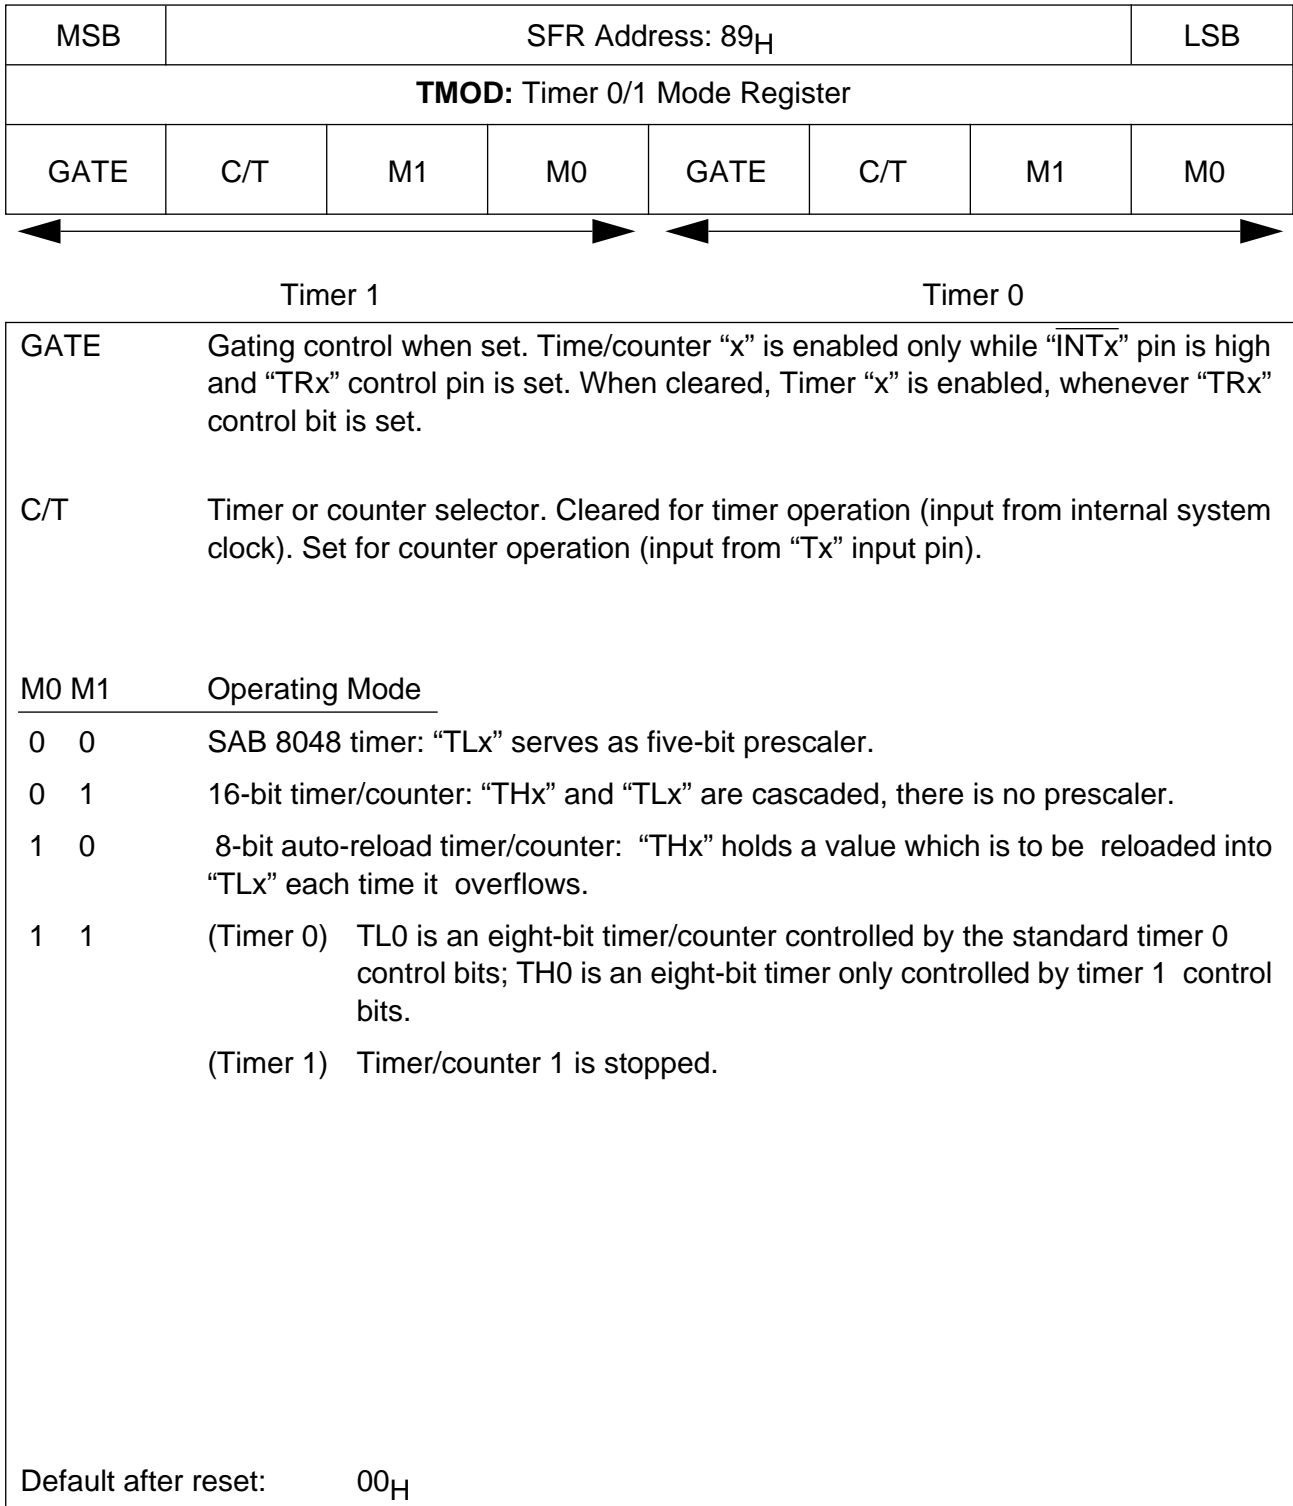

Figure 14
Timer/counter 0 can be configured in one of four operating modes, which are selected by bit-pairs (M 1, M0) in TMOD register (**figure 14**).
In this mode, the timer register is configured as a 13-bit register. As the count rolls over from all 1s to all 0s, it sets the timer interrupt flag TF0. The counted input is enabled to the Timer when TR0 = 1 and either GATE = 0 or INT0 = 1. (Setting GATE = 1 allows the Timer to be controlled by external input INT0, to facilitate pulse width measurements.) TR0 is a control bit in the special function register TCON (**figure 15**). GATE is contained in register TMOD (**figure 14**).
The use of the timer/counter is determined by two 8-bit registers, TMOD (timer mode) and TCON (timer control), as shown in **figure 14** and **figure 15**. The input to the counter circuitry is from an external reference (for use as a counter), or from the on-chip oscillator (for use as a timer), depending on whether TMOD's C/T bit is set or cleared, respectively. When used as a time base, the on-chip oscillator frequency is divided by twelve (12) before being used as the counter input. When TMOD's gate bit is set (1), the external reference input (T1, T0) or the oscillator input is gated to the counter conditional upon a second external input (INT0), (INT1) being high. When the gate bit is zero (0), the external reference, or oscillator input, is unconditionally enabled. In either case, the normal interrupt function of INT0 and INT1 is not affected by the counter's operation. If enabled, an interrupt will occur when the input at INT0 or INT1 is low. The counters are enabled for incrementing when TCON's TR1- and TR0 bits are set. When the counters overflow, the TF1-and TF0 bits in TCON get set, and interrupt requests are generated.